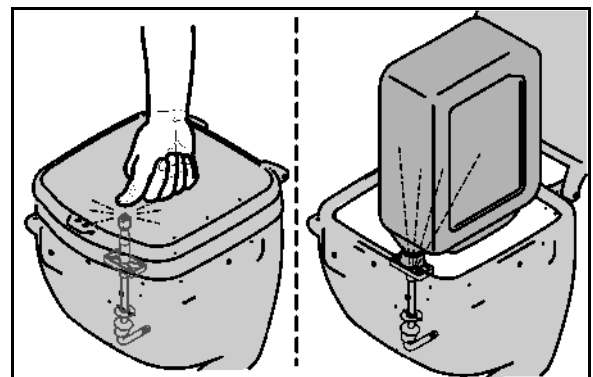

Fig. 61
- the closed folding cover is pressed downwards (Fig. 61).